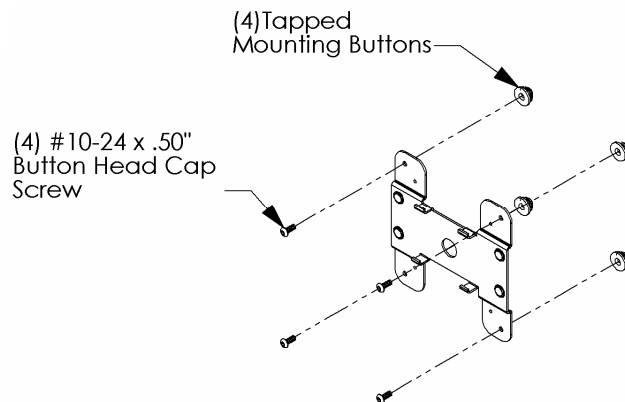

Figure 3
- 2a. Using 1/8" Hex Key, assemble (4) mounting buttons to 5" hole pattern on the adapter bracket with the four (4) 10-24 x .50" Button head cap screws (see Figure 3).